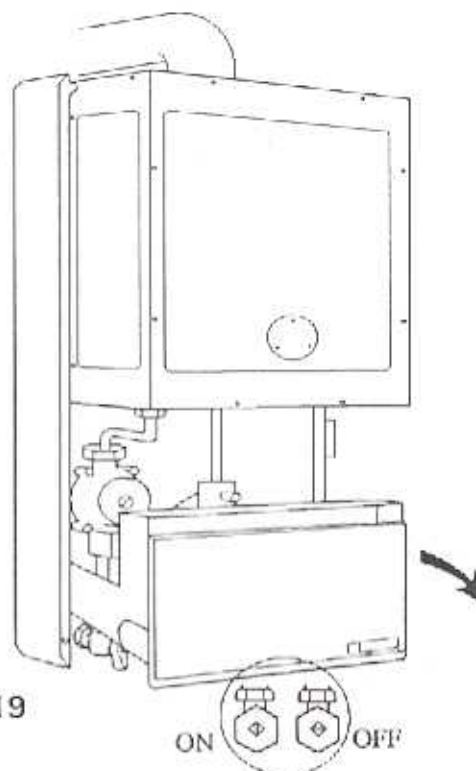

Fig.19
- 5.7.2 To gain access to the electrical terminals hinge down the spring loaded control fascia. (ref to fig.19) until it rests in an approximately horizontal position.